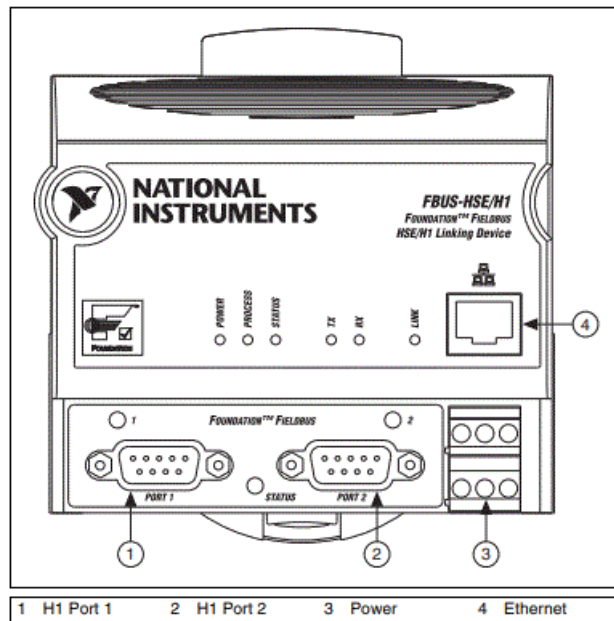

Figure 7. Connectors on the FBUS-HSE/H1 LD
5. Figure 7 shows the power, H1, and Ethernet connectors on the FBUS-HSE/H1 LD.